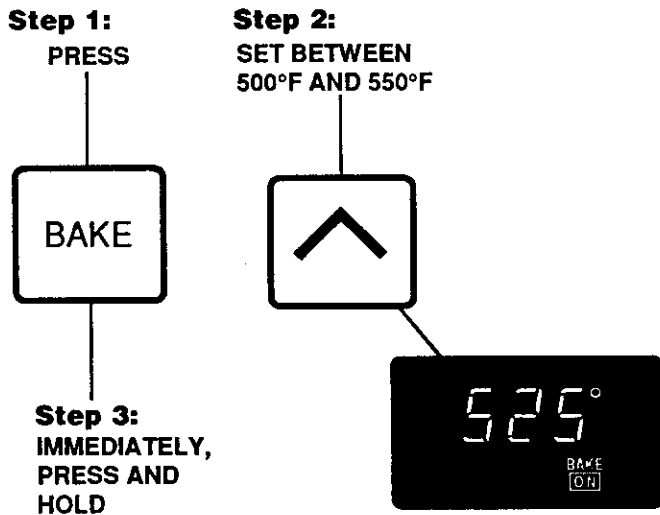

Fig. 1
2. Select a temperature between 500°F and 550°F by pressing the UP arrow. See Fig. 1.